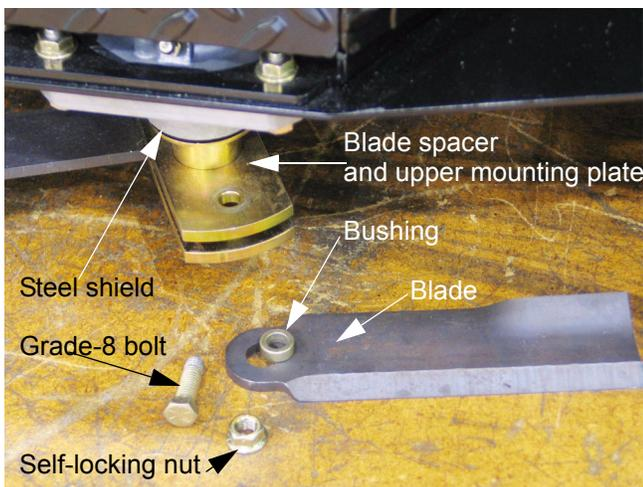

Figure 2.5
2.5. The blades can be removed from the blade mount assembly using a pair of 9/16" wrenches. See Figure 2.5.